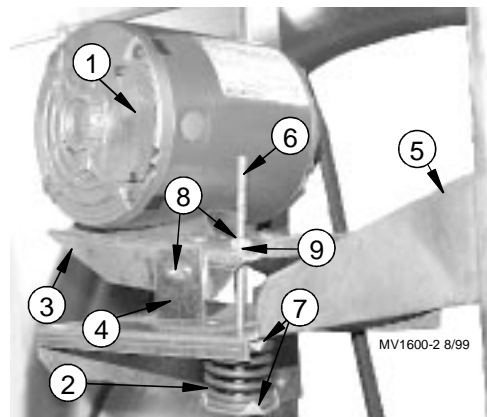

**Figure 5. Bolt Position for Bracket Mounting**
4. Mount the new U-Motor Mounting Bracket to the posts at the second, and sixth, and eighth holes, **see Figure 5**, up in the upper hole combination with the 1/4" bolts, the bolt heads should be to the inside, and 1/4" lock nuts provided.